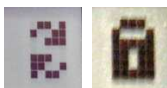

Fig. 21
Activation of cyclical scrolling is indicated by the 2 arrows in the top left-hand corner of the display (Fig. 21).
Scrolling can be blocked by pressing the ENTER key (4th key from display). A padlock symbol will appear (Fig. 21).